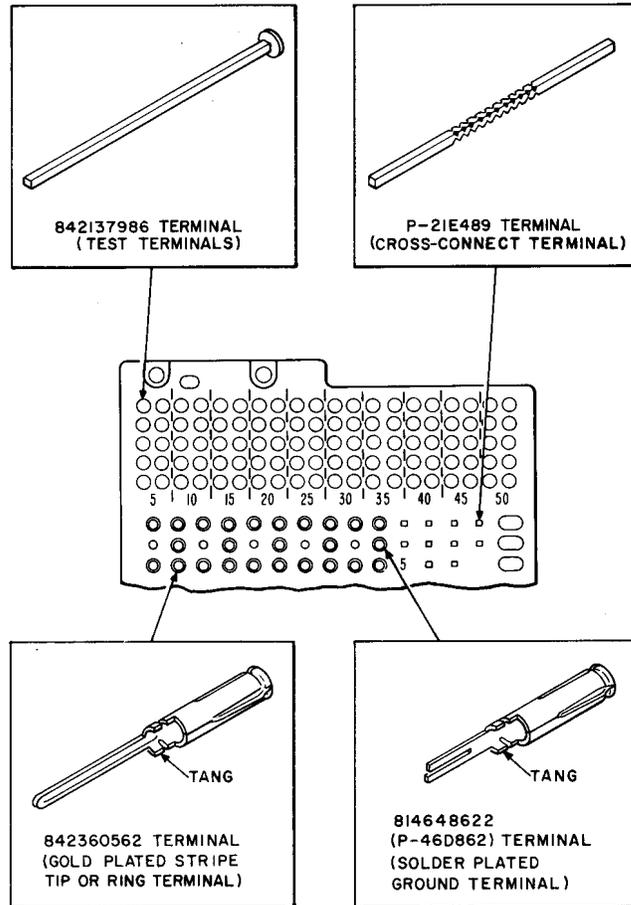

Fig. 1—303-Type Connector, Front Side
4.11 841634207 842360562 Tip or Ring Terminal (Fig. 1): To replace terminal proceed as follows:
4.12 814648622 (P-46D862) Ground Terminal (Fig. 1): To replace terminal proceed as follows:
4.13 842137986 Test Terminal (Fig. 1): To replace terminal proceed as follows:
4.14 P-21E489 Cross-Connect Terminal (Fig. 1): To replace terminal proceed as follows: